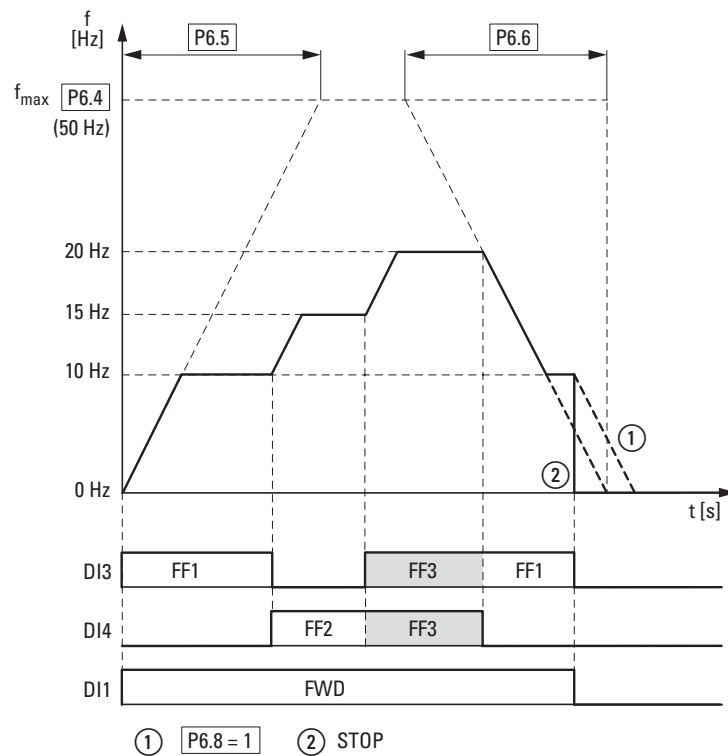

Figure 100: Example: Activation of the fixed frequencies in the default setting with acceleration and deceleration ramps
The change between the individual fixed frequencies is done with the acceleration times and deceleration times set at P6.5 and P6.6. (→ Figure 100). When the FWD or REV enables are revoked, the output frequency is inhibited directly ② (coasting to halt). When P6.8 = 1, the drive performs a controlled deceleration ①.